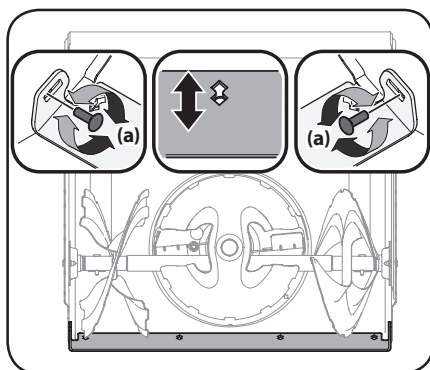

Figure 4-3
NOTE: The shave plate on select units (shown in Figure 4-3) have a wear edge that can be adjusted forward to prolong its life. As the shave plate wears, it can be moved into a second position.
3. Loosen rear skid shoe bolts (a) on both sides of equipment housing and remove carriage bolts and hex nuts which attach shave plate to auger housing. See Figure 4-3.
4. Slide shave plate downward into second position. Reinstall and tighten all bolts securely. See Figure 4-3.